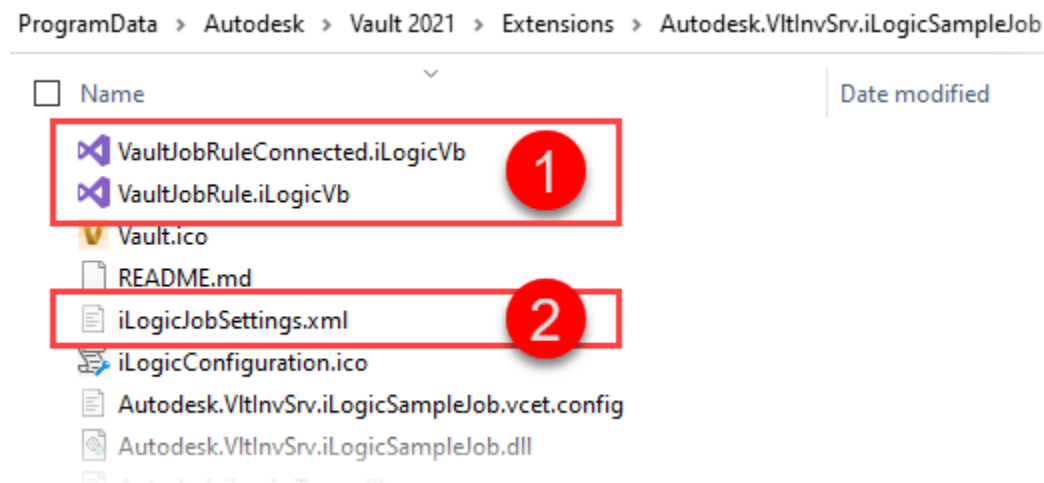

Figure 23
The setup copied two sample iLogic Job rules (Figure 23, (1)) to the program's installation folder.
Import/Export Settings reads or writes all settings to the file iLogicJobSettings.xml (Figure 23, (2)); this is useful for transferring settings from one Vault to another. The iLogic Job extension reads the configuration, particularly for each job from Vault; therefore, changes in the configuration do not require to restart the Job Processor.